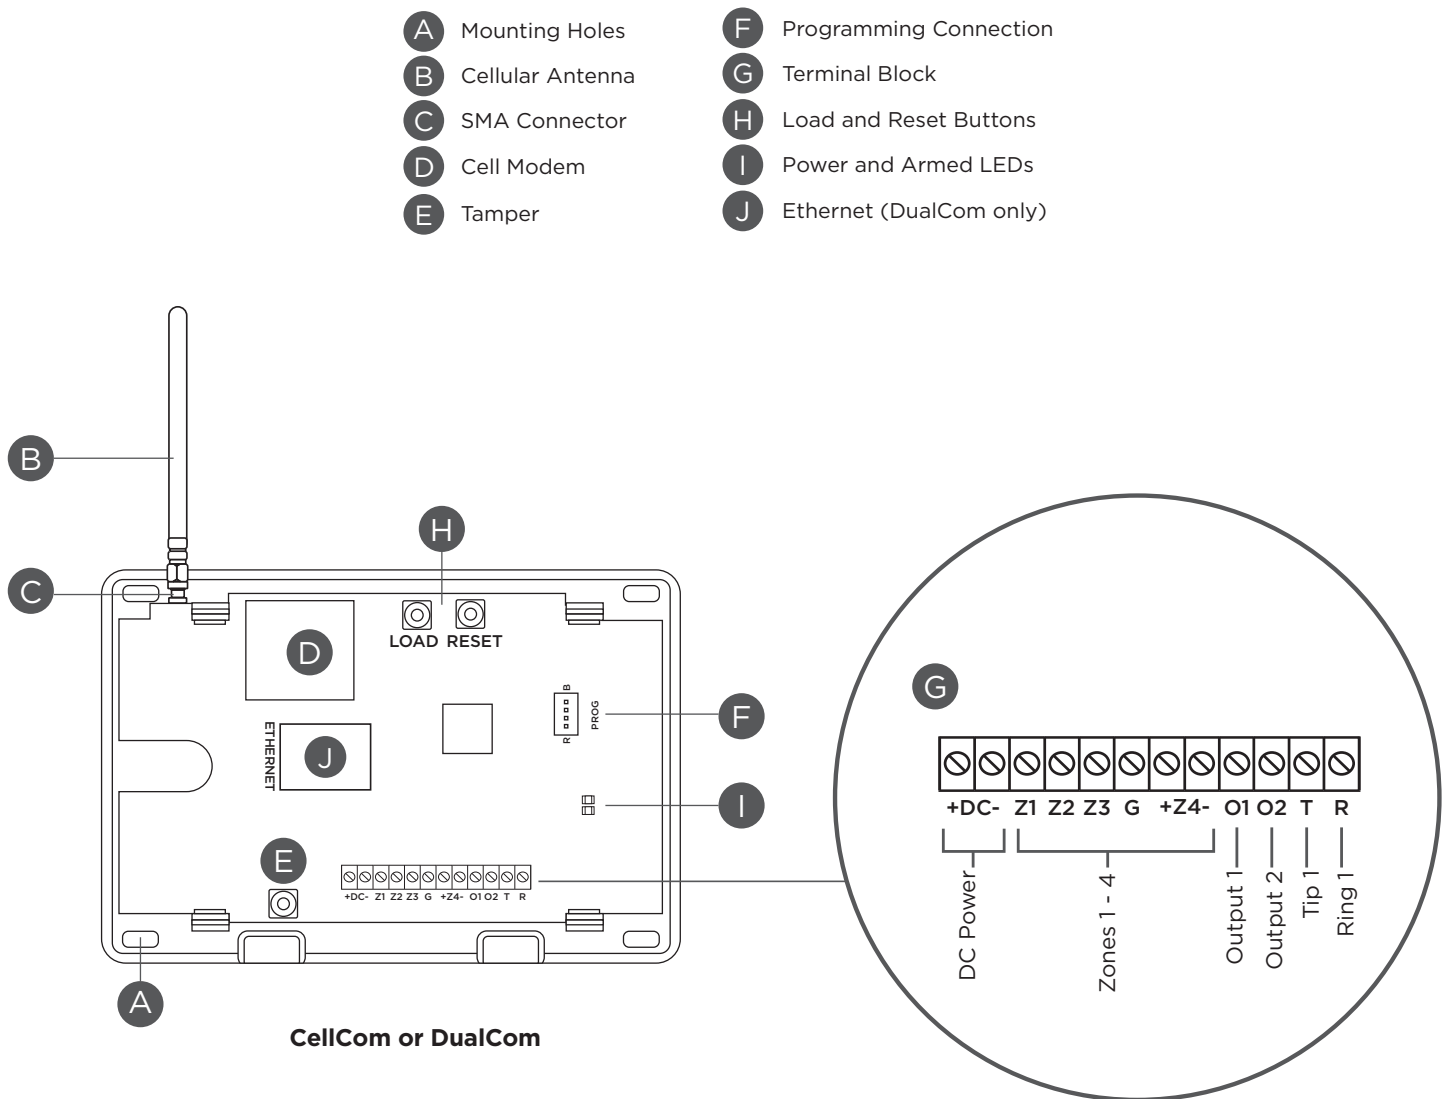

Figure 1: CellCom and DualCom Components
It is not necessary to remove the PCB from the housing when installing the communicator. The communicator should be mounted to a wall using the included #6 screws in the mounting holes. Refer to Figure 1 for mounting hole locations. Mount the communicator in a secure, dry place to protect it from tampering and weather damage. If using a 685 Series Conduit Backbox, refer to the 685 Installation Sheet \(LT-1431\) for mounting instructions.
1. Attach the antenna to the SMA connector. Refer to Figure 1.